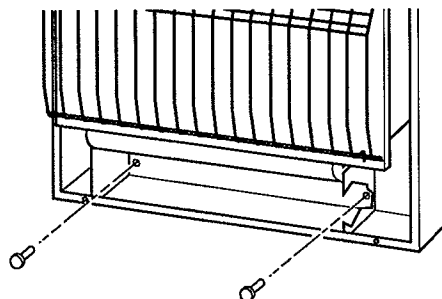

Figure 10 - Installing Bottom Mounting Screws
1. Locate two bottom mounting holes. These holes are near bottom on back panel of heater (see Figure 10).